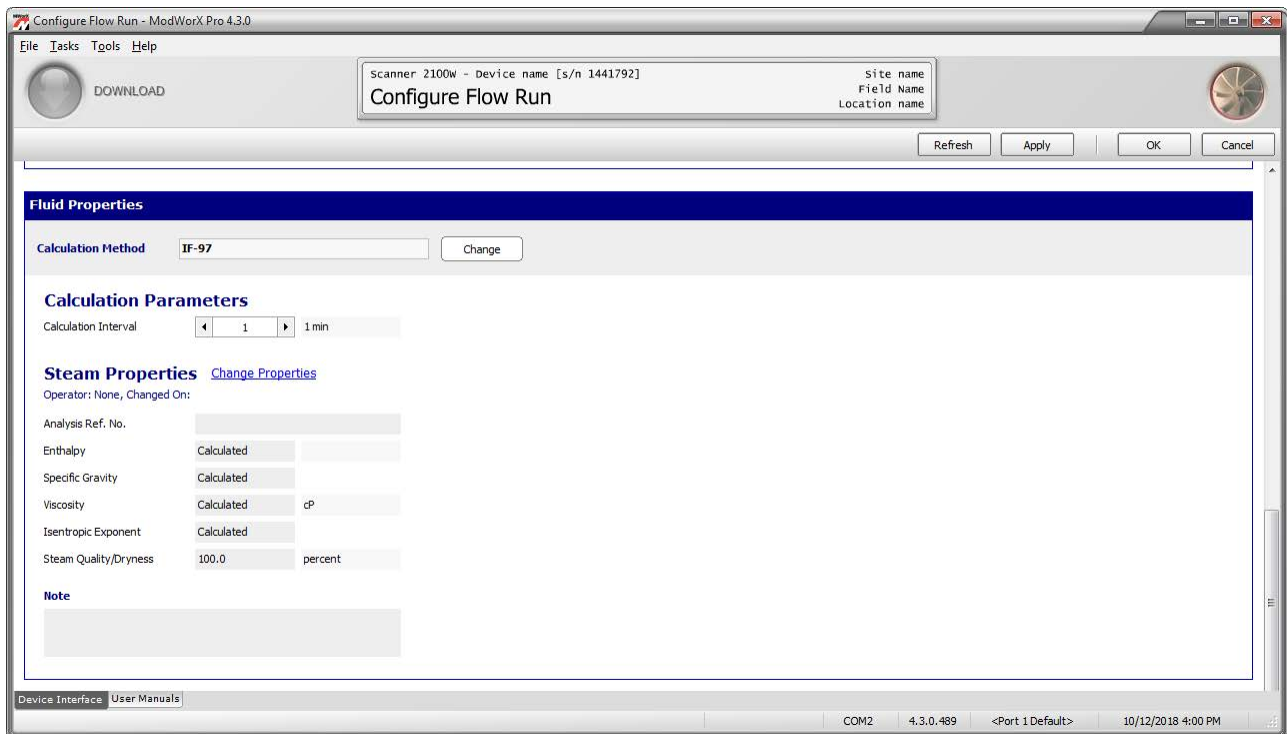

Figure 4.15
- b. If the flow run is configured for steam measurement, Steam Property settings will be displayed (Figure 4.15, page 59). Edit the parameters as necessary. To change a parameter, click on the blue **Change Properties** hyperlink and follow the screen prompts.